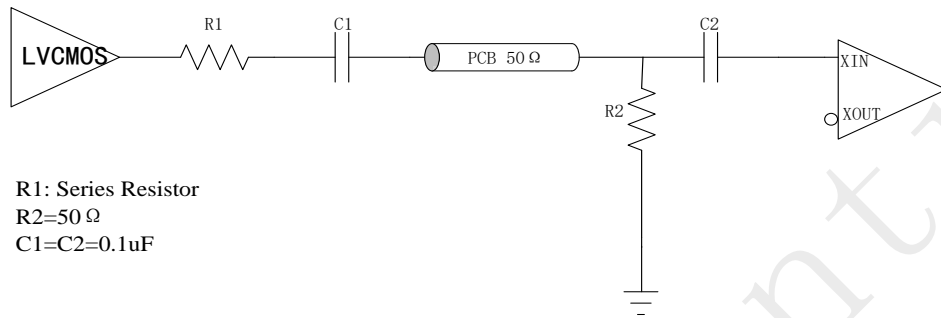

Figure 5. XIN Single-Ended LVCMOS Clock
**XIN/XOUT:** If the crystal oscillator circuit is not used, it is possible to drive the Xin input with a single-ended external clock as shown in Figure 5. The input clock should be AC coupled to the Xin pin, which has an internally generated input bias voltage, and the Xout pin should be left floating. While Xin provides an alternative input to multiplex an external clock, it is recommended to use either differential input (CLKx) since it offers higher operating frequency, better common mode, improved power supply noise rejection and greater performance over supply voltage and temperature variations.